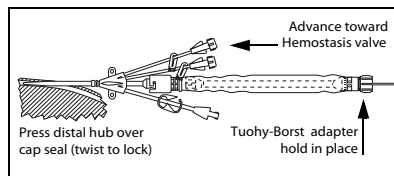

Fig. 11
21. Hold rear hub (Tuohy-Borst adapter end) of catheter contamination shield in place. Disengage distal hub from inner feed tube by moving forward. Advance distal hub forward toward hemostasis valve assembly. Hold assembly in place (refer to Fig. 11).